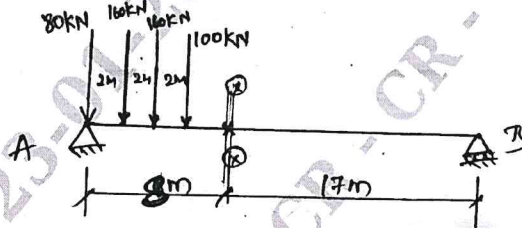

Fig.Q1(b)
- b. The loading system shown in Fig.Q1(b) crosses a girder 25 m span with 100 kN load leading. Determine:
- ii) Absolute maximum Bending Moment (BM) on the girder (ILD or otherwise) (08 Marks)